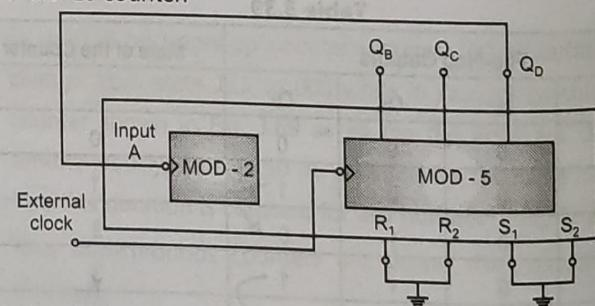

Fig. 3.74
- The circuit is as shown in Fig. 3.74.